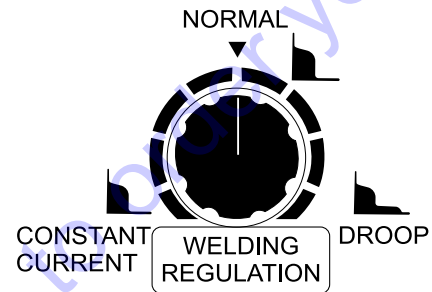

Figure 39. Welding Regulation Control Knob
- Set the welding regulation control knob (Figure 39) to the desired setting.